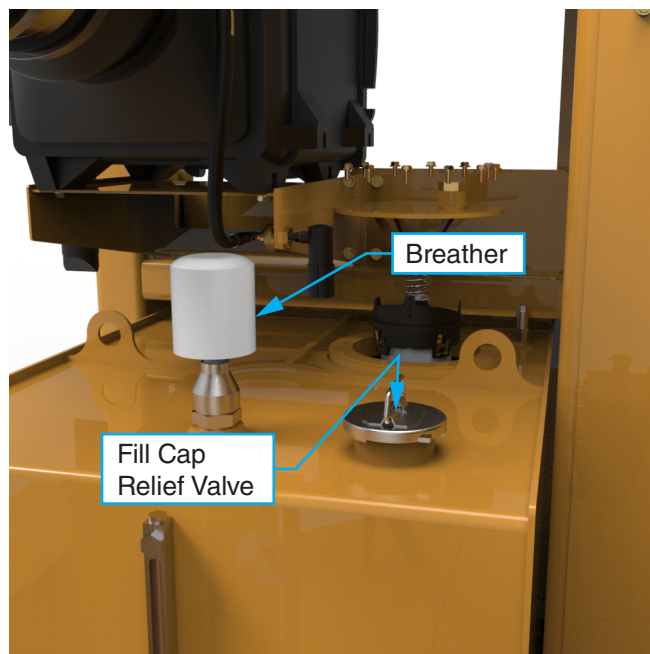

Figure 6 Hydraulic Tank - Breather
3. Relieve pressure in the tank by pressing down on the relief valve at the center of the fill cap. See Figure 6.